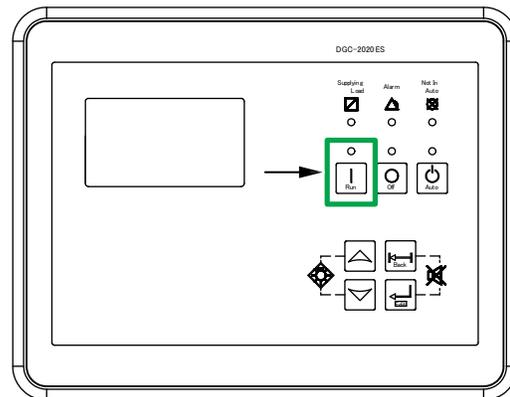

Figure 33. Digital Controller (Run Button)
1. To start the engine, press the **Run button** (Figure 33) on the digital controller.